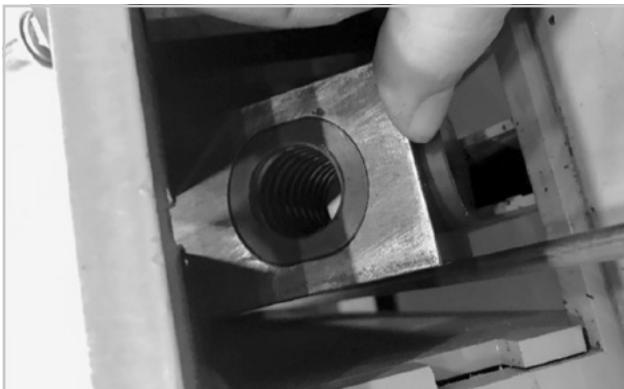

Figure 80
- Remove ACME Nut by pushing the ACME rod into the table and tilting the acme nut until it can be removed (Figure 80)